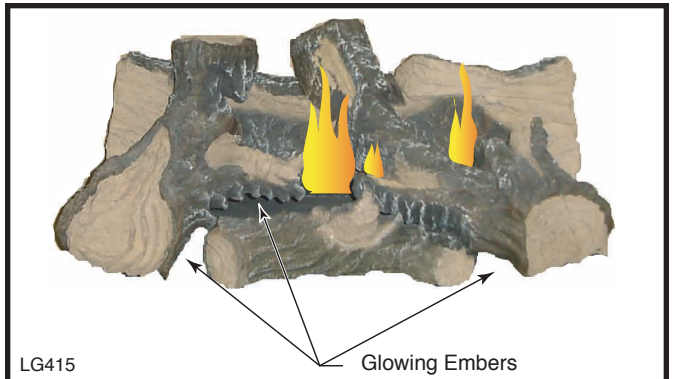

Fig. 50 Correct burner flame appearance for 39LDVR.
5. Place ember material on top of burner. Scatter the ember material over the tiles on the front area of the burner housing. (Fig. 50) Separate it when unpacked and keep it in a fluffy and loose condition for a more realistic ember effect.